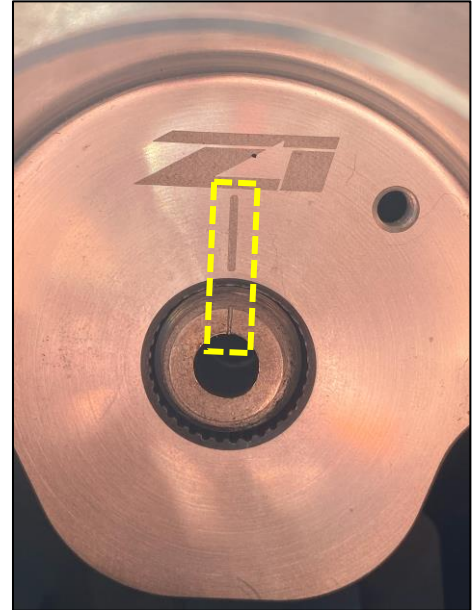

Figure 6
13. Place the Z1 Steering Wheel Hub Adaptor on the Steering Shaft. Line up the mark on the Steering Shaft with the mark of the Z1 Steering Wheel Hub Adaptor. Feed the Horn Wire and the Button Control Wire through the openings if you are using them. Line up the Dash on the Steering Hub Adaptor with the Dash on the Steering Shaft Splines. *Figure 6.*